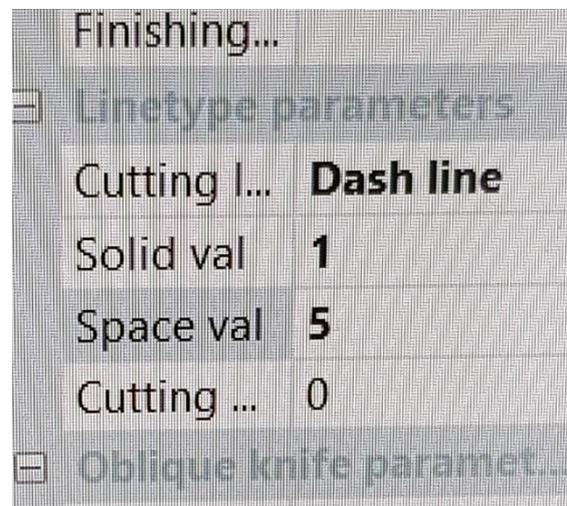

Figure 4.12
- Change a solid line to a Dash/Perforated line – Cutting Line [Figure 4.12].